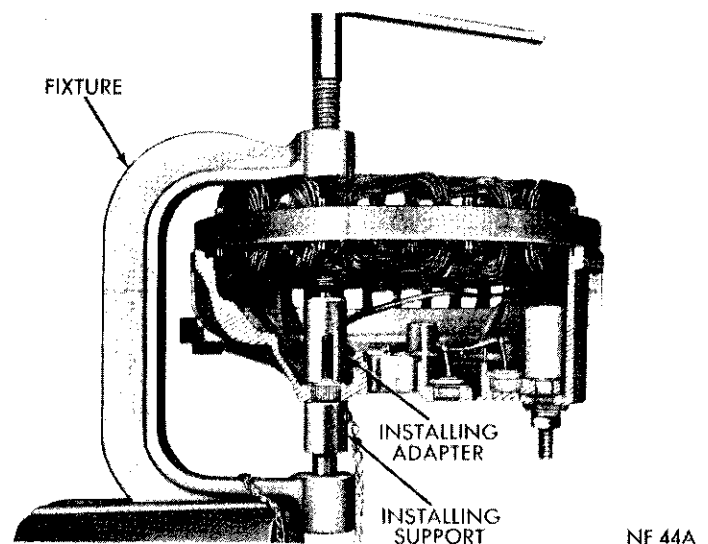

Fig. 28—Installing a Rectifier
(1) Check rectifier identification to make sure correct rectifier is being installed. Refer to Parts List for rectifier identification.
(2) Start rectifier squarely into mounting hole.
(3) Support heat sink or rectifier end shield on installer adapter of Tool C-3928. With the installing adapter positioned on the rectifier, carefully apply pressure with tool pressure screw until the installer tool, rectifier, rectifier end shield or heat sink are in alignment and after determining that rectifier is started squarely in the casting, slowly apply pressure with tool pressure screw until you feel the collar of rectifier bottom against casting (Fig. 28). **Make sure installer support adapter fits square around the rectifier inner boss and that pressure is applied on outer rim of rectifier.**